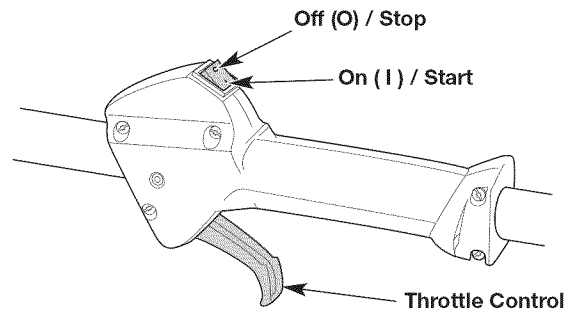
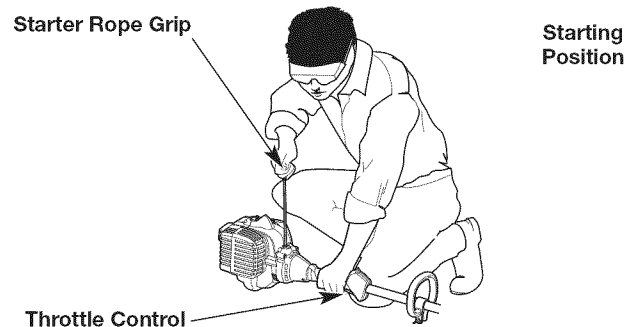

Fig. 7
Fig. 9
**WARNING:** Avoid accidentally starting the unit. To avoid serious injury, the operator and the unit must be in a stable position when pulling the starter rope (Fig. 9).
**NOTE:** There is no need to turn the unit on. The On/Off switch is in the ON ( 1 ) position at all times (Fig. 7).
5. Crouch in the starting position (Fig. 9).
6. Squeeze the throttle control (Fig. 7) and pull the starter rope with a controlled and steady motion **5 times** (Fig. 9).
2. Press and hold the On/Off switch in the OFF (O) position until the engine comes to a complete stop (Fig. 7).